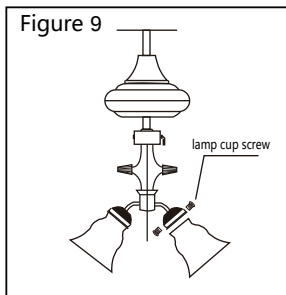
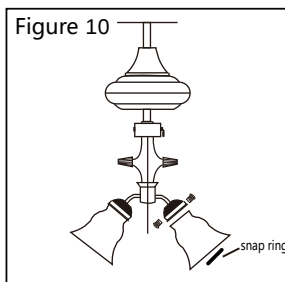

Figure 9
Figure 10
- 3.Loosen the 3 screws on the lamp cup by hand,put the glass shade into the cup.There are 3 screws on the side of the cup,please tighten them to avoid the shade falling.The 3 screws on the cup must be screwed properly,which can not be screwed too tight.Otherwise,the glass shade may easily get damaged(See Figure 9).If the shade is locked by the fastener,please stuck the glass by using the snap ring(See Figure 10).